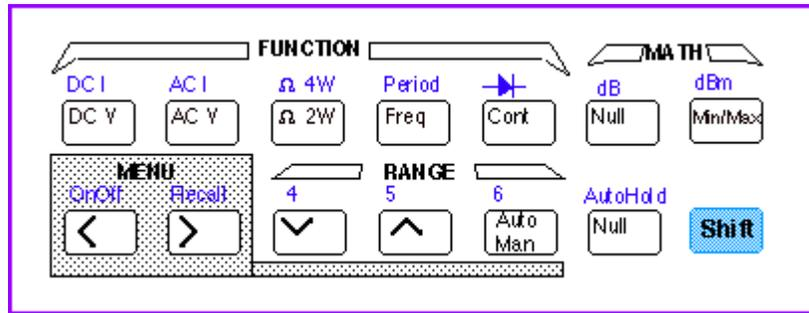
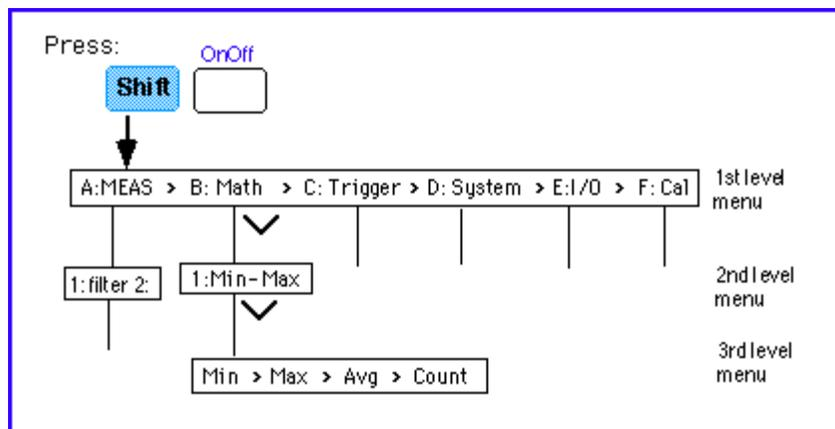

Figure 4: Function, Math, Range, and Menu keys
Figure 5: The front panel menu organization.
also manually select a fixed range (e.g. 1KΩ or 1MΩ) using the **Auto/Man** button on the front panel (under Range/Digits) buttons (Figure 4). The 'down' arrow selects the lower range and the 'up' arrow the higher range.
To access these stored numbers, just turn the Menu on by pressing the **On/Off** key (SHIFT <) on the front panel (see Figure 4). Then, use the > or < keys until you are in the MATH (B) menu. You can now *go down* to the "parameter level" of the selected MIN-MAX menu by pressing the "down" button until you see the desired parameter menu (1:MIN_MAX) displayed. Press "down" button again, you are in the MIN-MAX menu. Please use the > or < buttons to scroll through the menu and read the values. The menu is organized in three levels, as Fig. 5.